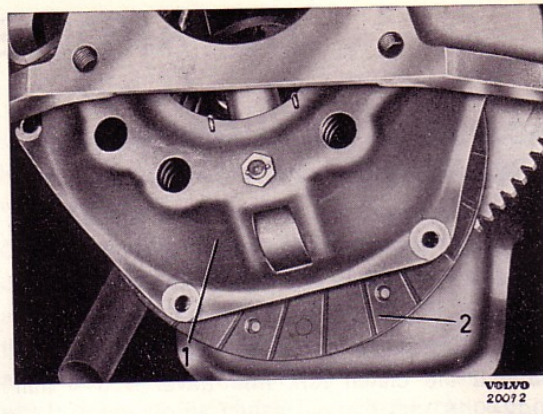

Fig. 10. Removing the clutch
7. On removing the six bolts securing the clutch to the flywheel, they should be slackeden crosswise a couple of turns at a time prevent warping. Hold up the clutch so that it does not fall to the floor. The clutch and clutch plate can now be removed downwards, see Fig. 10.